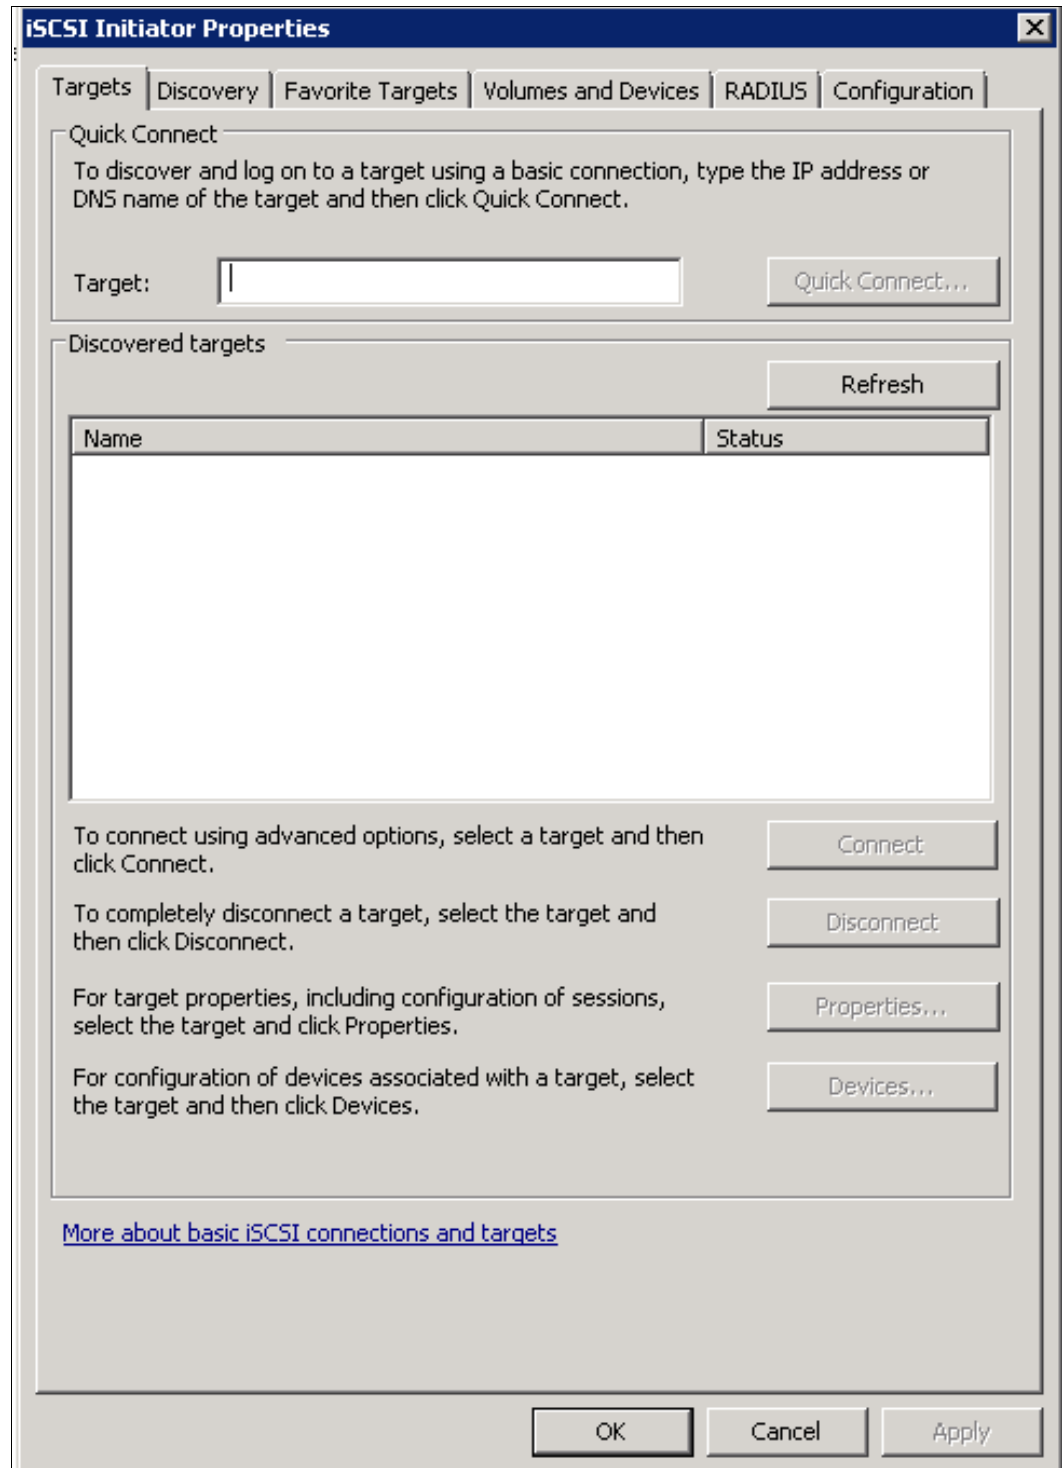

Figure 5-47 Windows iSCSI Configuration tab
3. Log on to your Windows 2008 host and click **Start** → **Administrative Tools** → **iSCSI Initiator** to open the iSCSI Configuration tab, as shown in Figure 5-47.